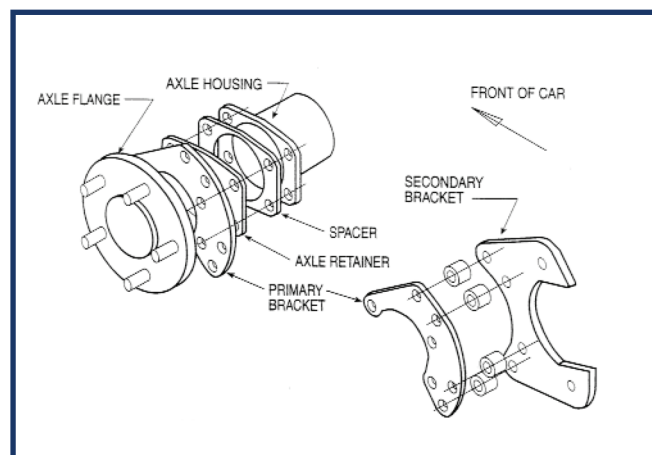

Figure 1
14. Take the supplied bolts, and install those on the primary bracket. Use the spacers, that are also provided, and install those onto the bolts. (See Figure 1)